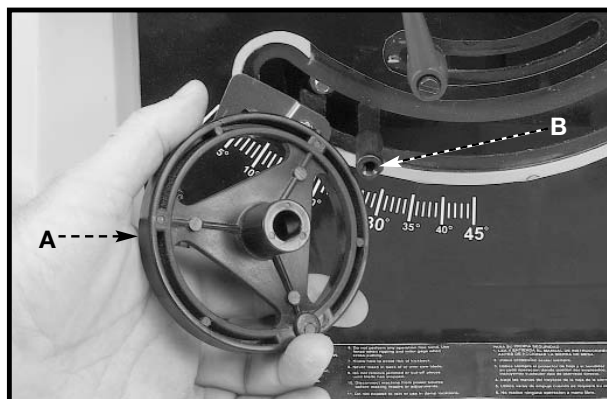

Fig. 15
2. Attach the handwheel (A) Fig. 15 to the shaft (B). Align the flat on the inside of the handwheel to the flat on the shaft.